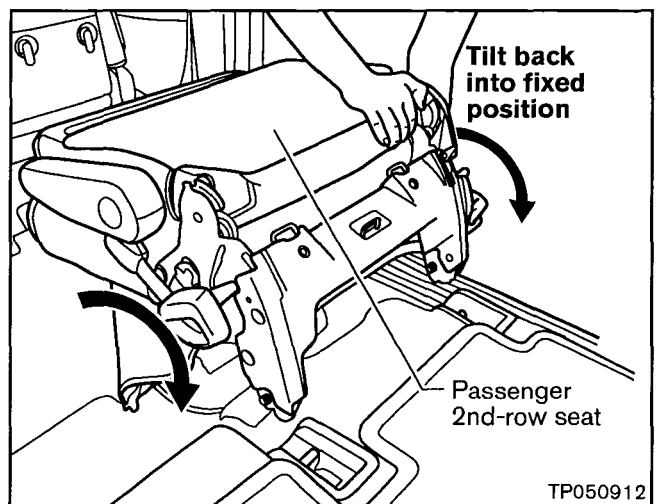

Figure 10
5. Tilt the seat back into its normal "fixed" position (see Figure 10).